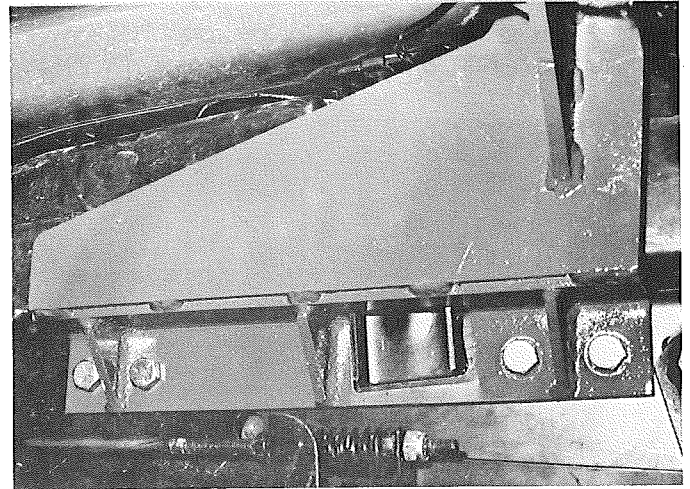
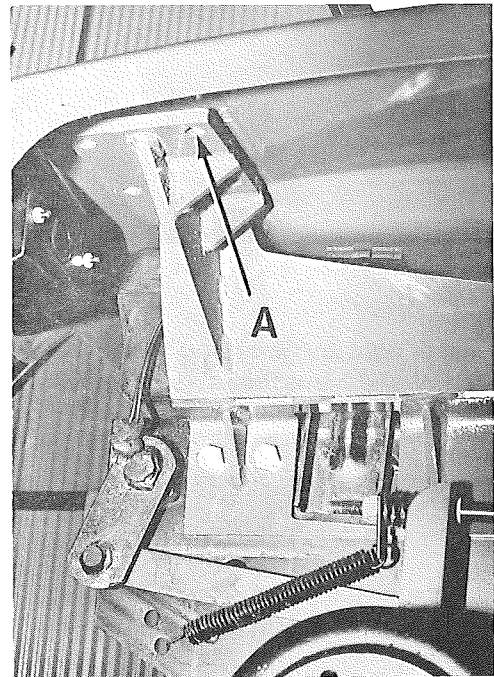

Figure 3
Figure 4
- Install rear mounts to tractor using $\frac{1}{2}$ " x $1\frac{1}{4}$ " Grade 5 bolts, lockwashers and nuts. Fig. 3 shows 420 mount and Fig. 4 shows 318 mount. Tighten mounts up to side of tractor frame. Before drilling holes through seat deck be sure that the mounts are at $23\frac{1}{2}$ " center to center of holes in bottom mount. Fig. 5. Use holes in bottom mount pad as template and drill eight $17/32$ " diameter holes through seat deck. Fig. 4-A.